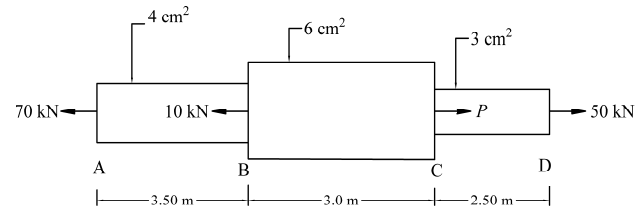

Fig.1
2. (a) Determine the load ' P ' by maintaining the static equilibrium of the axially loaded bar shown in the Fig.1. Also determine the change in length of the bar. Take $E = 200$ GPa.